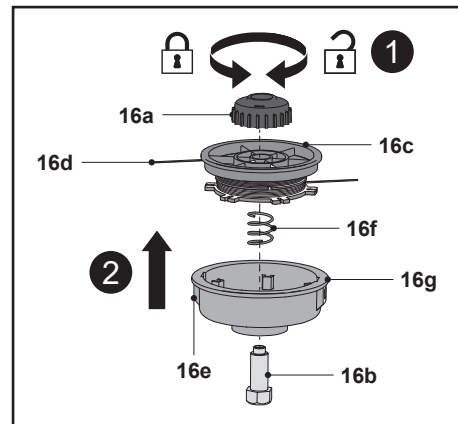

Fig. 27
5. Loosen the bumper (16a) clockwise by hand and disengage it from the locking bolt (16b) (Fig. 27, step 1), then remove the bumper (16a) and the locking bolt (16b) from the trimmer head (16).
6. Remove the trimming spool (16c) and the spring (16f) from the housing (16g) (Fig. 27, step 2).